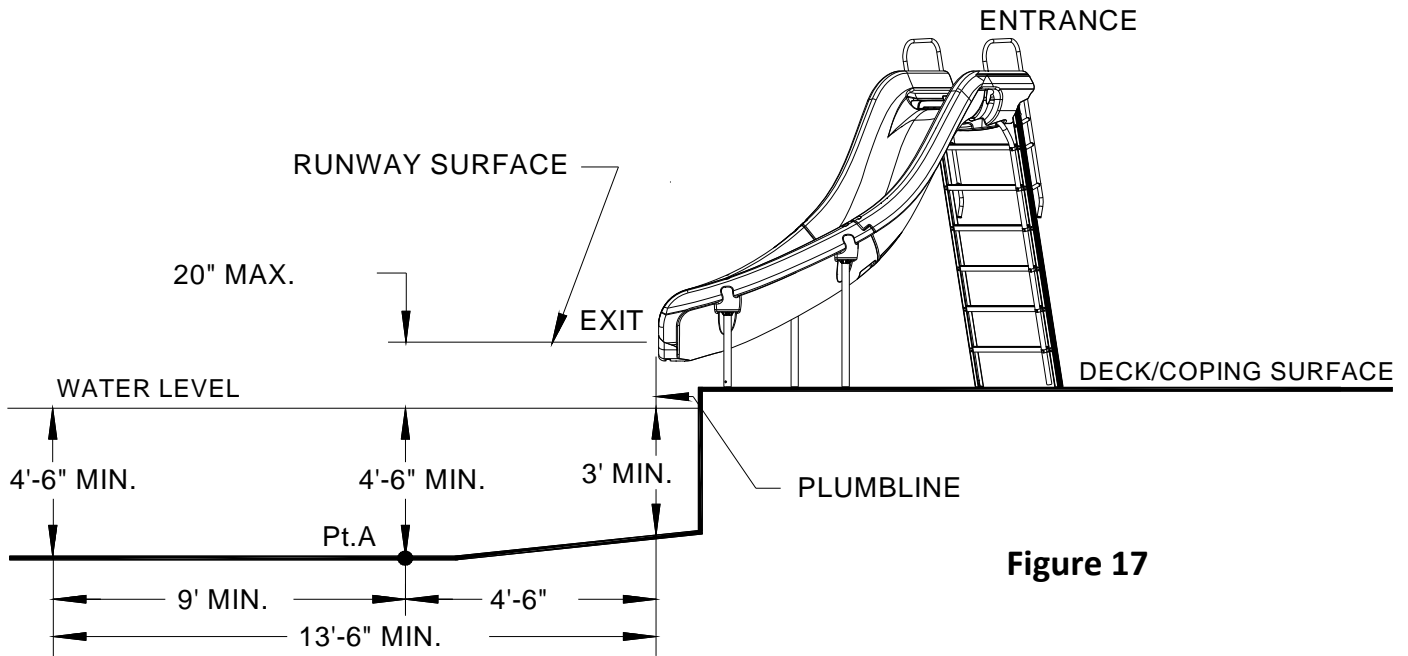

Figure 17
1) The critical dimensions for placement of the slide are as shown in Figures 17 and 18.
- A. The slide exit runway surface shall not exceed twenty inches (20") above the water surface and not less than eight inches (8") above the deck/coping surface (see Figure 17).
- C. The minimum depth of water below the exit lip of the slide shall be three feet (3') and increases to four feet six inches (4'-6") at Pt. A which is a distance of four feet six inches (4'-6") from the exit lip of the slide. (See Figure 17).
- D. A minimum depth of four feet six inches (4'-6") shall be maintained at a distance of nine feet (9') along the extended centerline of the slide from Pt.A. (See Figure 17).